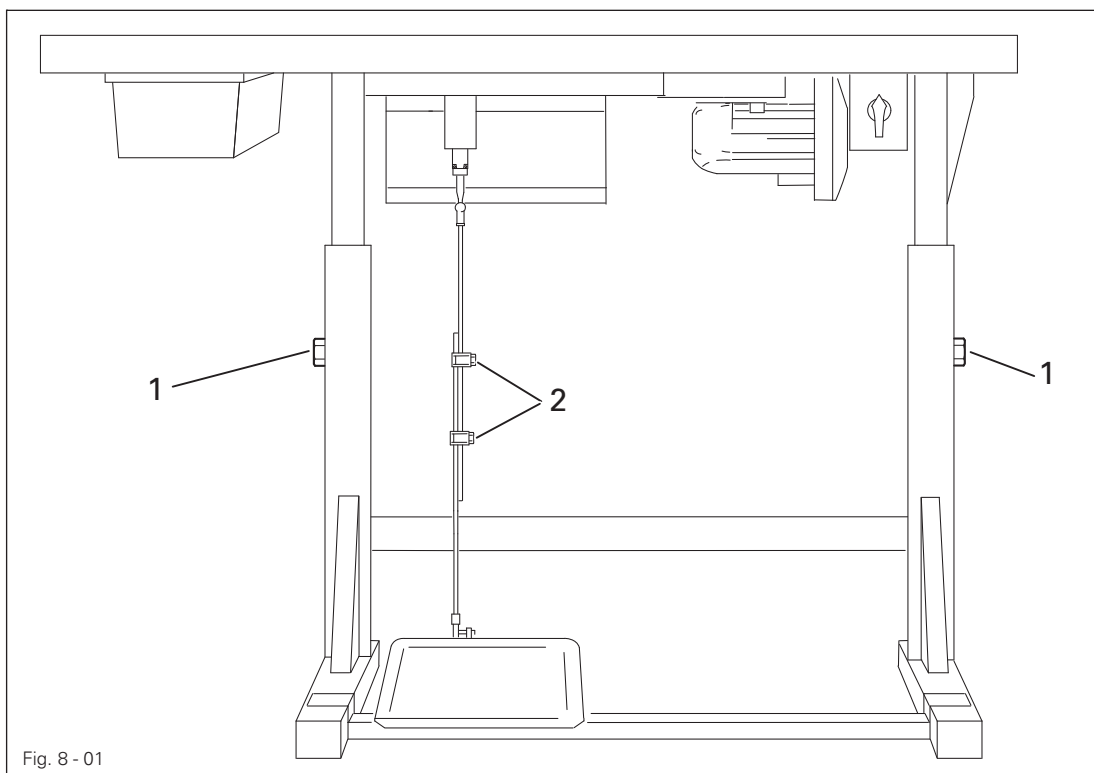

Fig. 8 - 01
- Assemble the reel stand as shown in Fig. 8 - 08.